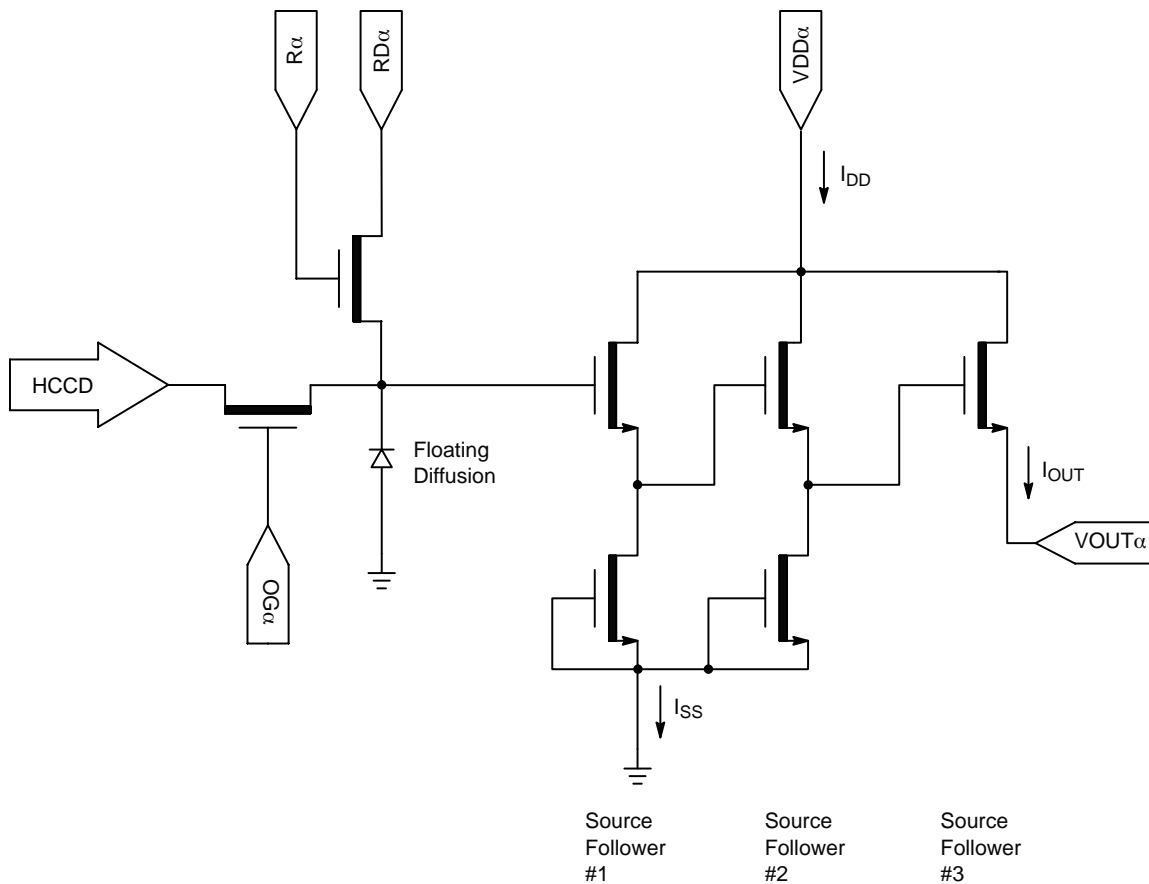

Figure 21. Output Amplifier
2. The maximum DC current is for one output. I_{DD} = I_{OUT} + I_{SS}. See Figure 21.